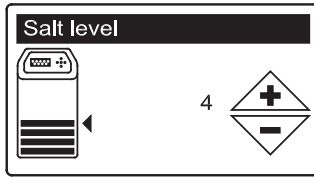

FIG. 20
23. **SALT LEVEL** Press the UP (▲) or DOWN (▼) buttons to set the salt level (See Figure 20). It should match the lowest number visible on the brinewell above the salt.
24. Press the SELECT (O) button.